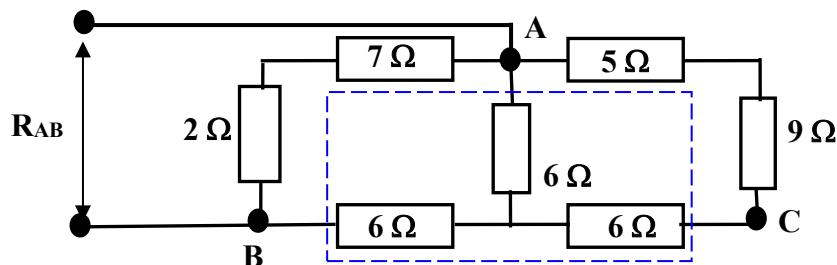

Figure 6
6. Simplify the circuit shown in Figure 6 to prove that the equivalent resistance at the terminals AB is $R_{AB} = 4.87 \Omega$ using star to delta transformation for the 6Ω star connected resistances connected to the terminals ABC.